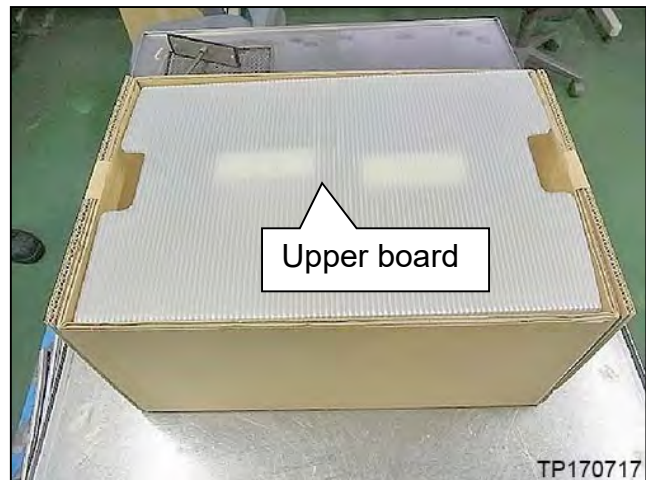

Figure 137
- The packing material may be different than what is shown in Figure 137.